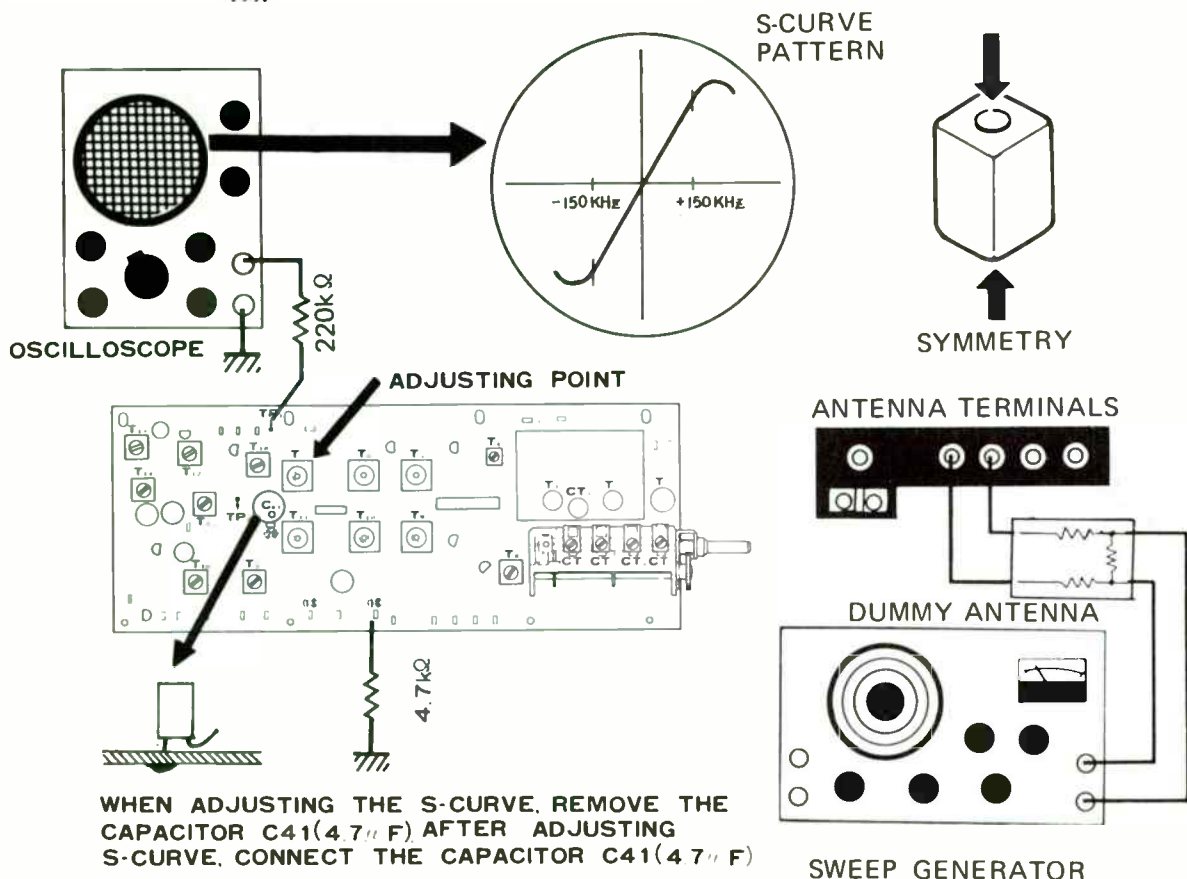

Fig. 4
- (k) Disconnect the vertical input of oscilloscope from the FM meter output terminal, then connect the vertical input leads of oscilloscope to TP1 (Fig. 4).
- (l) Adjust the S-curve pattern for adjusting the cores of the FM IFT T7. (Linearity is improved by primary core: symmetry by the secondary core) (Fig. 4).
- (n) Connect the capacitor ( $4.7\mu\text{F}$ ) to the terminal ⑳ after the alignment has been completed.